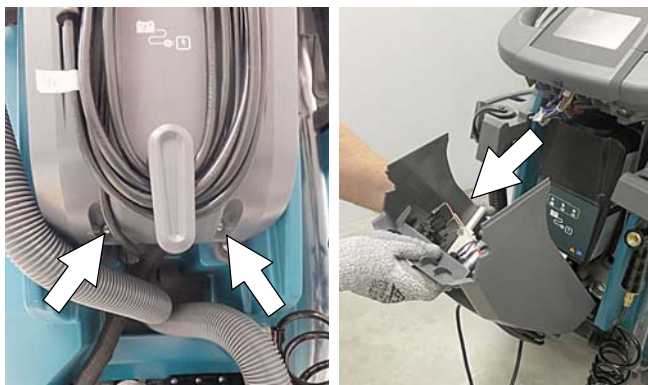

FIG. 123
3. Using a T25 star screwdriver, remove the two screws located at the bottom of the control console to access battery charger (Figure 123).